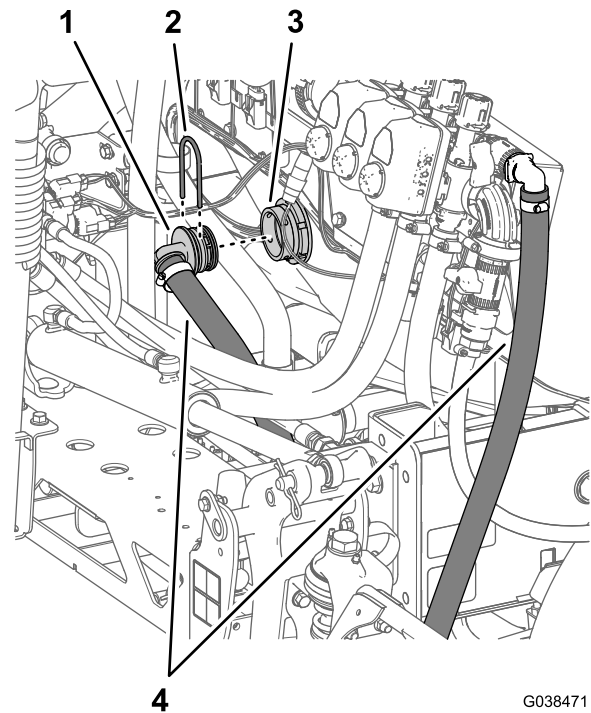

Figure 100
3. Route the section bypass hose around the right frame channel toward the bulkhead fitting in the sprayer tank as shown in Figure 100.
4. Assemble the 90° barbed fitting of the section bypass hose into the bulkhead fitting (Figure 100).
5. Secure the 90° fitting to the bulkhead fitting (Figure 100) with the retainer (large) that you removed in step 1 of Removing the Section Bypass Hose (page 16).